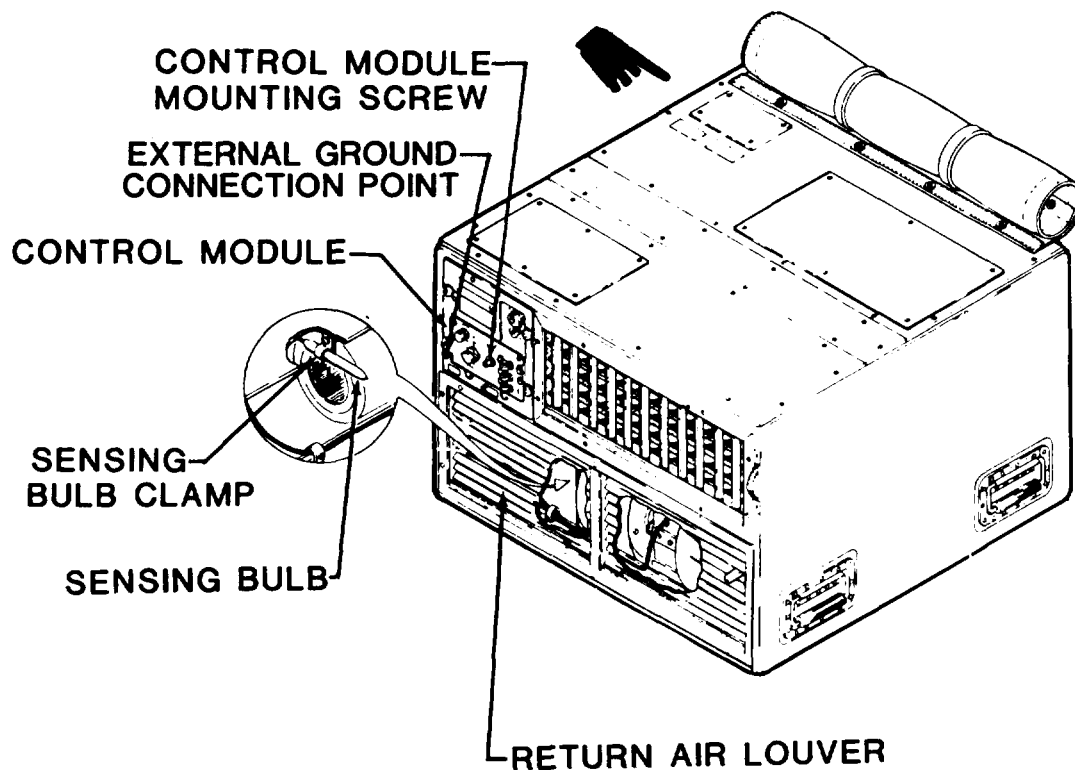

Figure 4-3 Control Module Removal
(2) Connectors are provided to permit remote installation of the control module. If it is determined that it is desirable to mount the control module in a remote (mounted elsewhere in the conditioned space) location the following steps must be taken. (See fig. 4-3.)